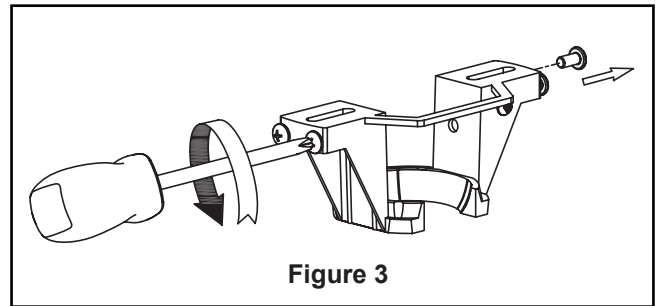

Figure 3
- 3. Route your fan wires and safety cable through the canopy trim ring and ceiling canopy. (Figure 3)
1. Completely remove one screw from either side of the hanger bracket--be sure it is the screw to your right when facing it--and keep for reinstallation on page 12 or 13 (**How to Install Your Canopy Housing**). Loosen the other two screws that were not removed. (Figure 3)